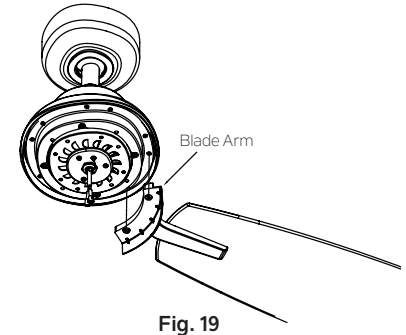

Fig. 19
Step 2. Attach blade arms to the motor assembly with blade arms screws. (Fig. 19)